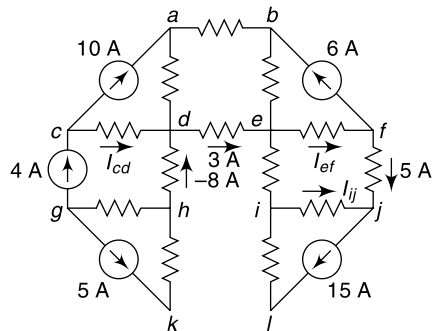

Fig. 14.23
14.52 Determine the currents I_{cd} , I_{ef} and I_{ij} in Fig. 14.23, if $I_{fj} = 5 \text{ A}$, $I_{de} = 3 \text{ A}$, $I_{be} = 0 \text{ A}$ and $I_{hd} = -8 \text{ A}$.